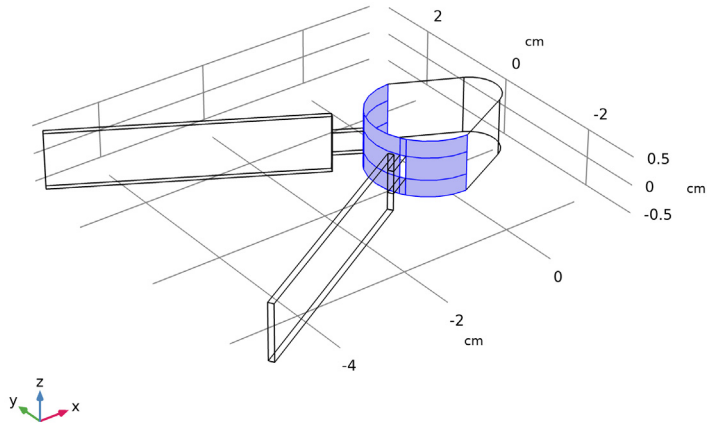

Figure 3: Normal component of solid motion transferred to the moving mesh boundaries. The mesh is free to slide in these boundaries in the tangential direction.
- At the back side of the solid body as shown in Figure 3, the contact area between solid and fluid boundaries continuously changes because of the rotational motion of the fins. Using a **Prescribed Normal Mesh Displacement** boundary condition at these boundaries, allows the mesh to move freely in the tangential direction and to follow the solid normal motion in the normal direction.